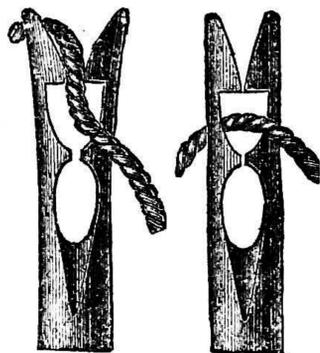

Fig. 7.—Calyx-eyed Needles.
*Calyx-eyed Needles.*—Before leaving the subject of needle making, a word should be said of this patented speciality of the Messrs. Milward's, and upon which they appear to look as, possibly, the needle of the future. The different schemes brought forward from time to time to facilitate so small a thing as the threading of a needle might furnish subject-matter for a volume. At the present time there are two self-threading needles (so-called) in the market: one, made at various Redditch factories, which threads through a slit at the side of the eye, and this, which threads through its top. It is claimed for the calyx-eyed needle that it can be threaded with ease in the dark. The form of its head is shown in Fig. 7. Also in the figure may be seen the method of threading it by pressing the thread through the nick at the top, and the needle as it appears when threaded. Of the two eyes, the upper one only is for the thread. The lower one, connected with it by a slit, is merely to